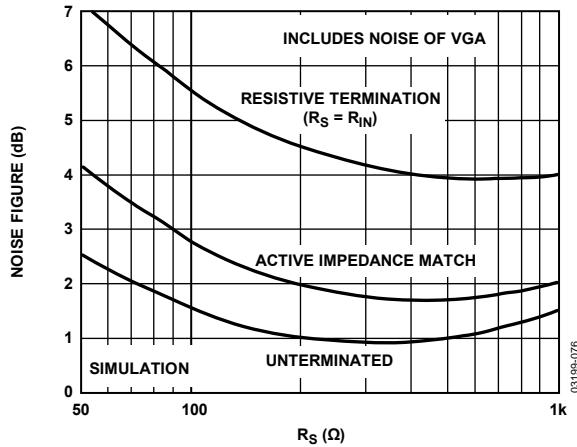

Figure 37. Noise Figure vs. R_S for Resistive, Active Matched and Unterminated Inputs, Gain = 1 V
The primary purpose of input impedance matching is to improve the system transient response. With resistive termination, the input noise increases due to the thermal noise of the matching resistor and the increased contribution of the LNA's input voltage noise generator. With active impedance matching, however, the contributions of both are smaller than they would be for resistive termination by a factor of $1/(1 + LNA\ Gain)$. Figure 37 shows the relative noise figure (NF) performance. In this graph, the input impedance was swept with R_S to preserve the match at each point. The noise figures for a source impedance of 50 Ω are 7.1 dB, 4.1 dB, and 2.5 dB for the resistive, active, and unterminated configurations, respectively. The noise figures for 200 Ω are 4.6 dB, 2.0 dB, and 1.0 dB, respectively.